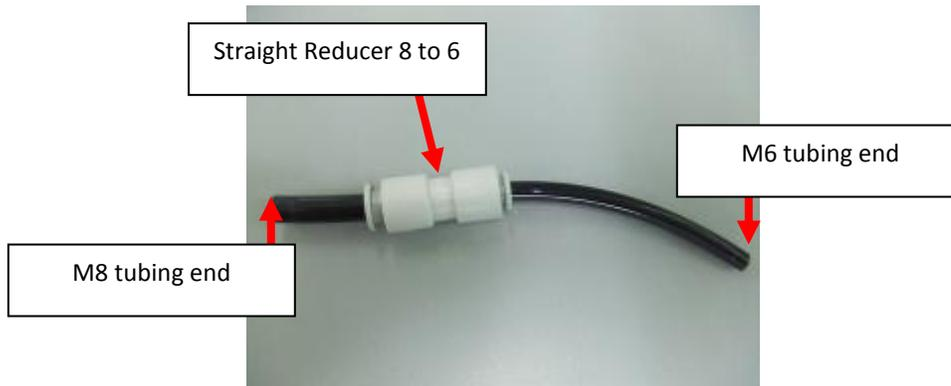

Figure 18: *Fitting and tubing sub-assembly from the permanent fix kit*
16. The next step will involve the linking of the tubing and fitting sub-assembly as indicated in Figure 18, which is retrieved from the permanent fix kit, to the Pilot Valve and *In* port of the Pressure Regulator at *P1*.